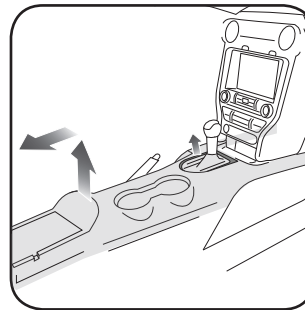

Fig. 1.4
6. Unclip the shifter bezel trim and pull it slightly. Open the center console storage compartment. Unclip the center console trim panel and slide it toward the rear of vehicle. (Fig. 1.4)